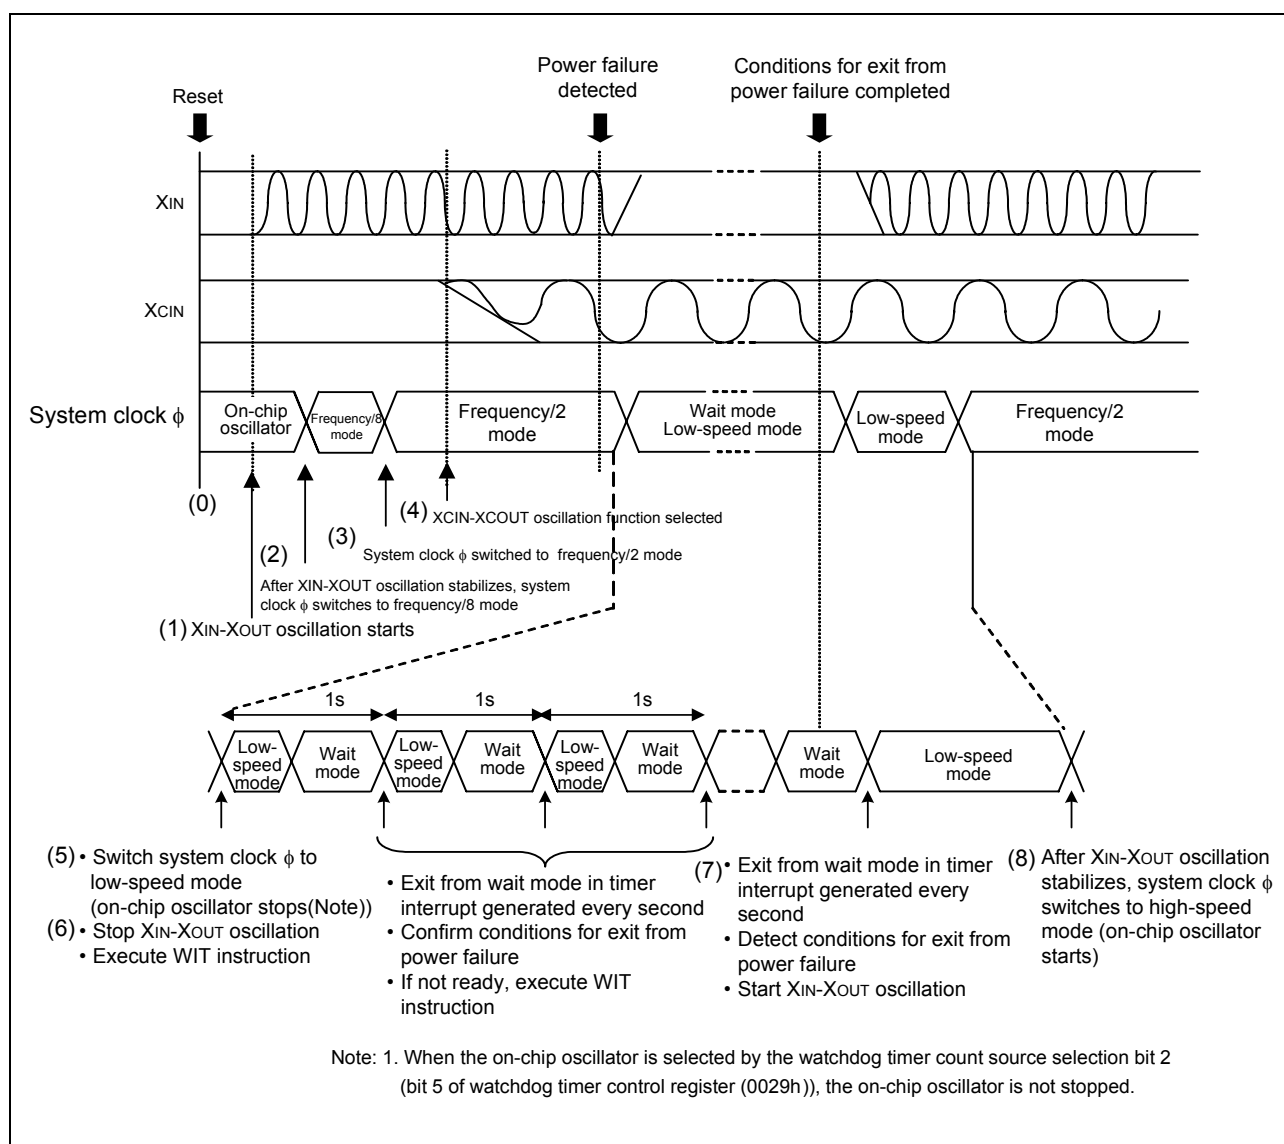
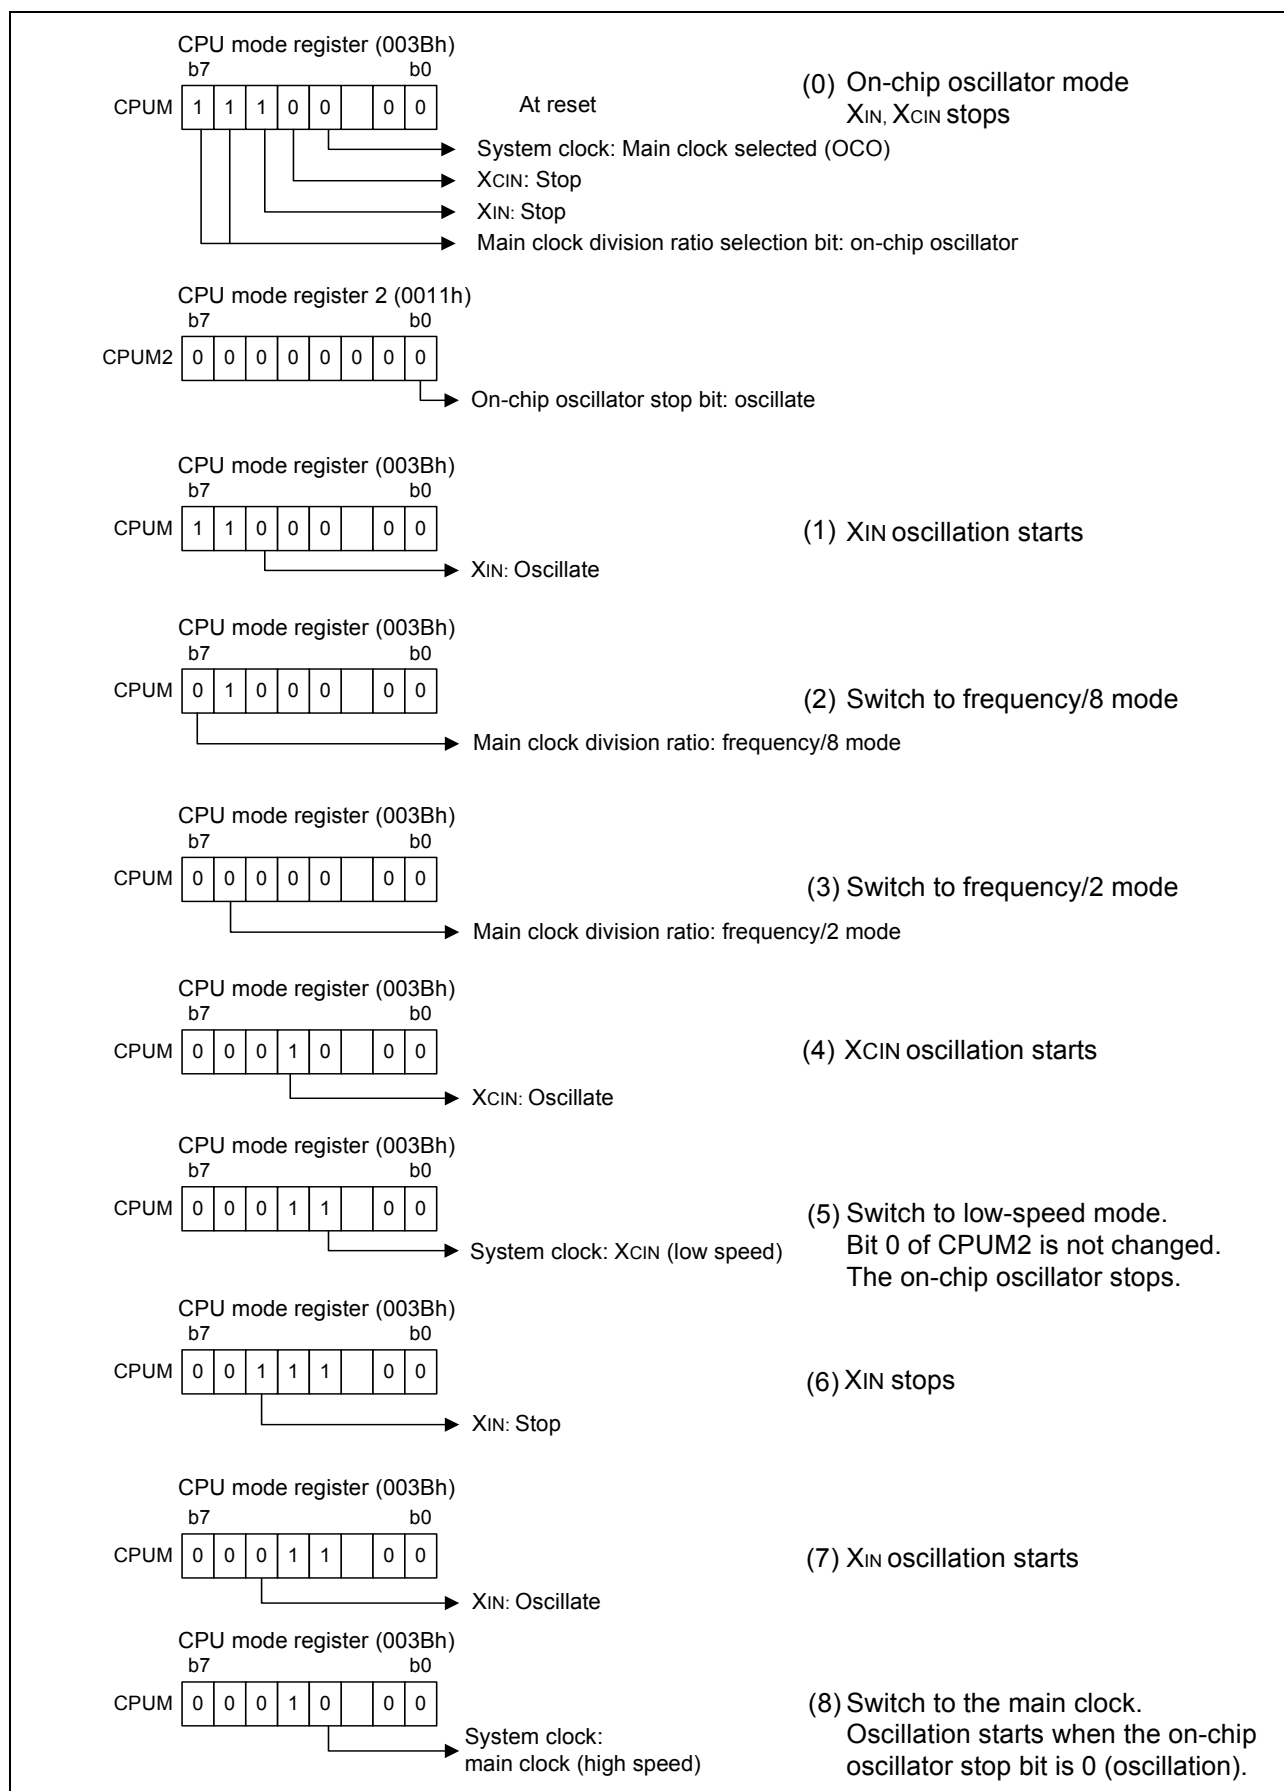
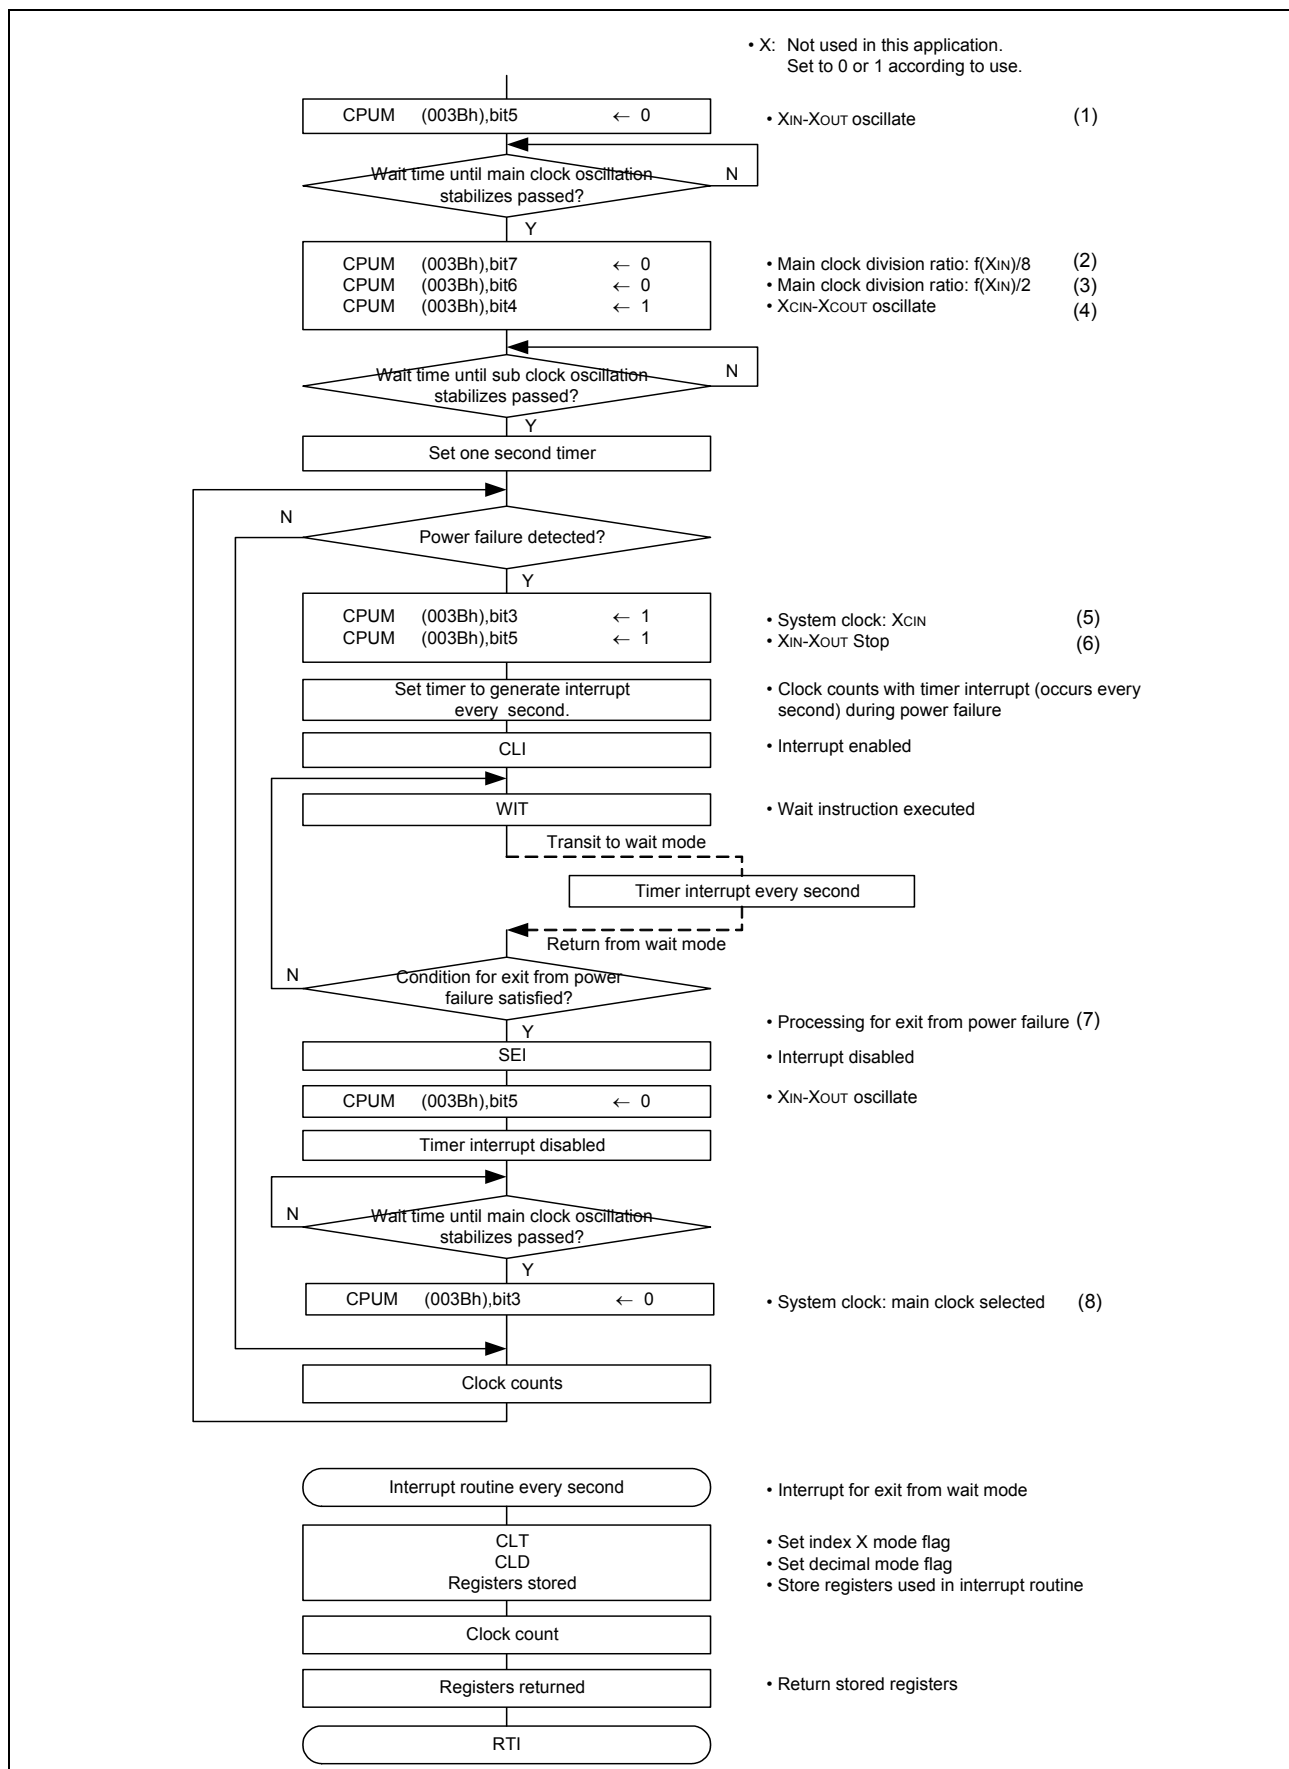

Figure 3.1 Mode Transition Example of System Clock ϕ During a Power Failure (OSCSEL = "L")
Figure 3.2 Relevant Register Settings
Figure 3.3 Control Procedure
Figure 3.1 shows a Mode Transition Example of System Clock ϕ During a Power Failure, Figure 3.2 shows the Relevant Register Settings, and Figure 3.3 shows the Control Procedure. (0) to (8) in figures show the corresponding parts in each figure.